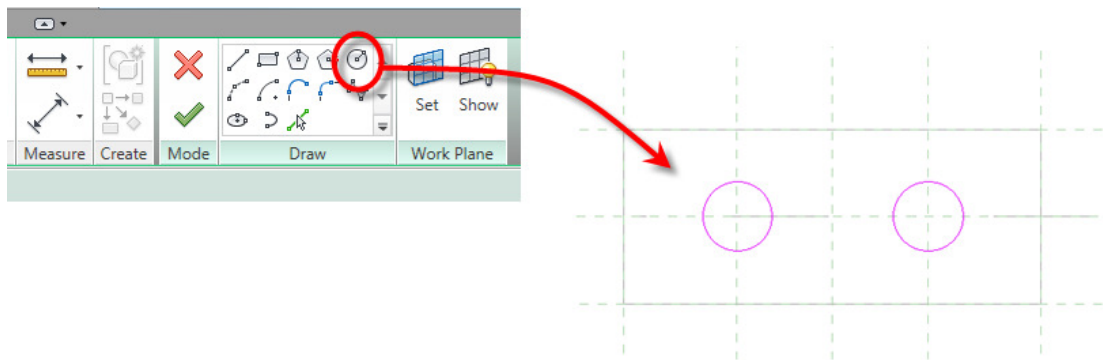

Figure 36. Creating the Inlet Sleeve sketch.
19. From the *Create Extrusion* ribbon, click the Circle tool (see Figure 36). Create two circles, each centered on the intersection of the Reference Planes as shown in Figure 36. The radii are not important at this point.